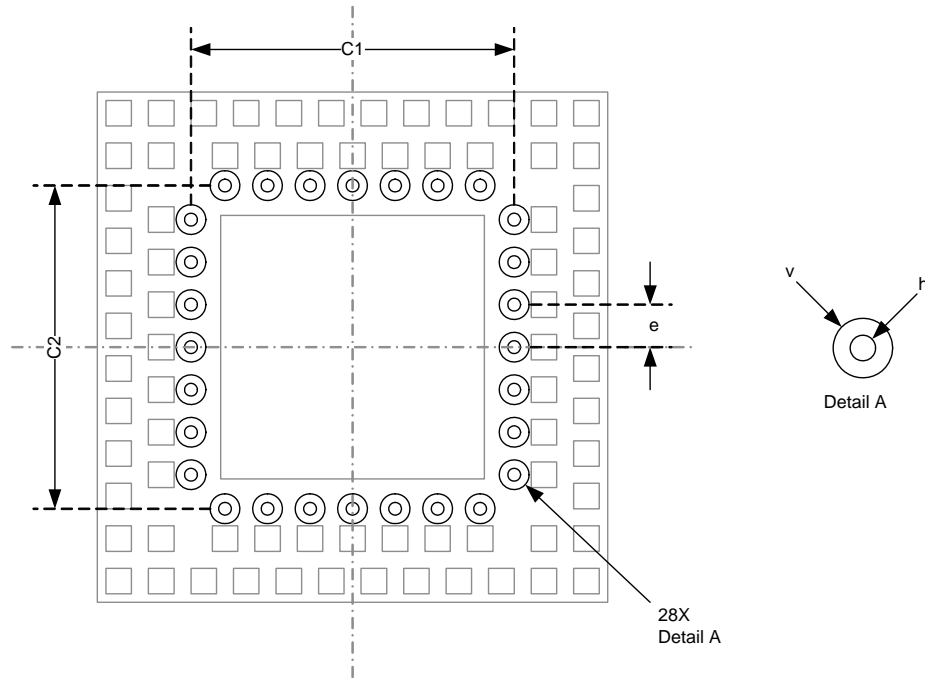

Figure 3.6. Recommended Inner Via Placement
1. Inner vias placement per Figure 3.6.